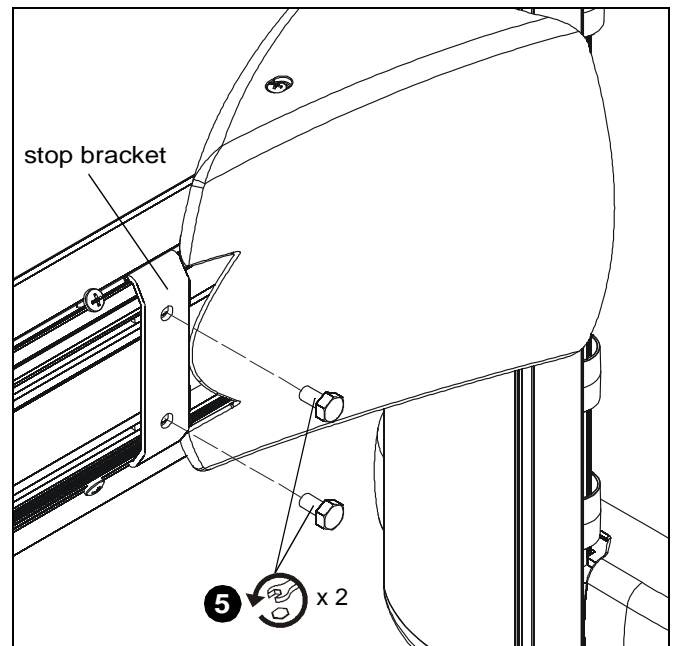

Figure 45
5. Remove two bolts holding stop bracket in place on underside of short throw projector mount. (See Figure 45)